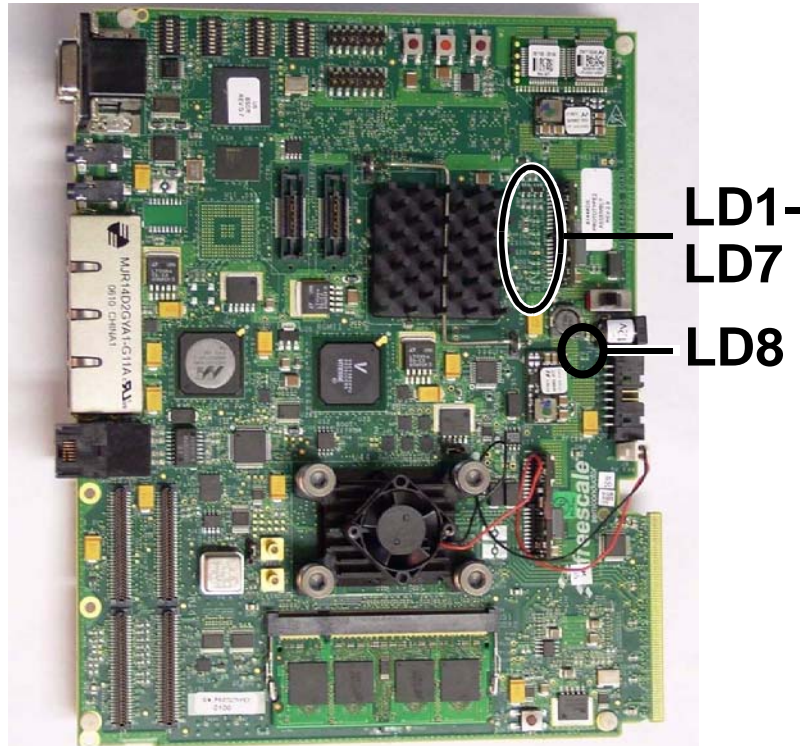

Figure 2-1. LED Locations
6. Check for completion of the reset sequence—indicated by all relevant LEDs reaching a steady state, according to their respective meanings. (see **Figure 2-1** for location of these LEDs, see **Table 4-6** for a more detailed description).